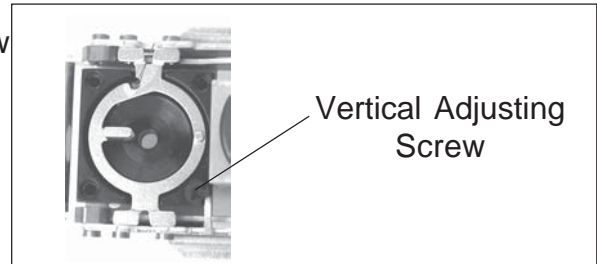

Figure 3-61. Adjusting Screw Alignment.
13. Refer to Figure 3-61 and turn the adjusting screw to it's original position, approximately 45 degrees.